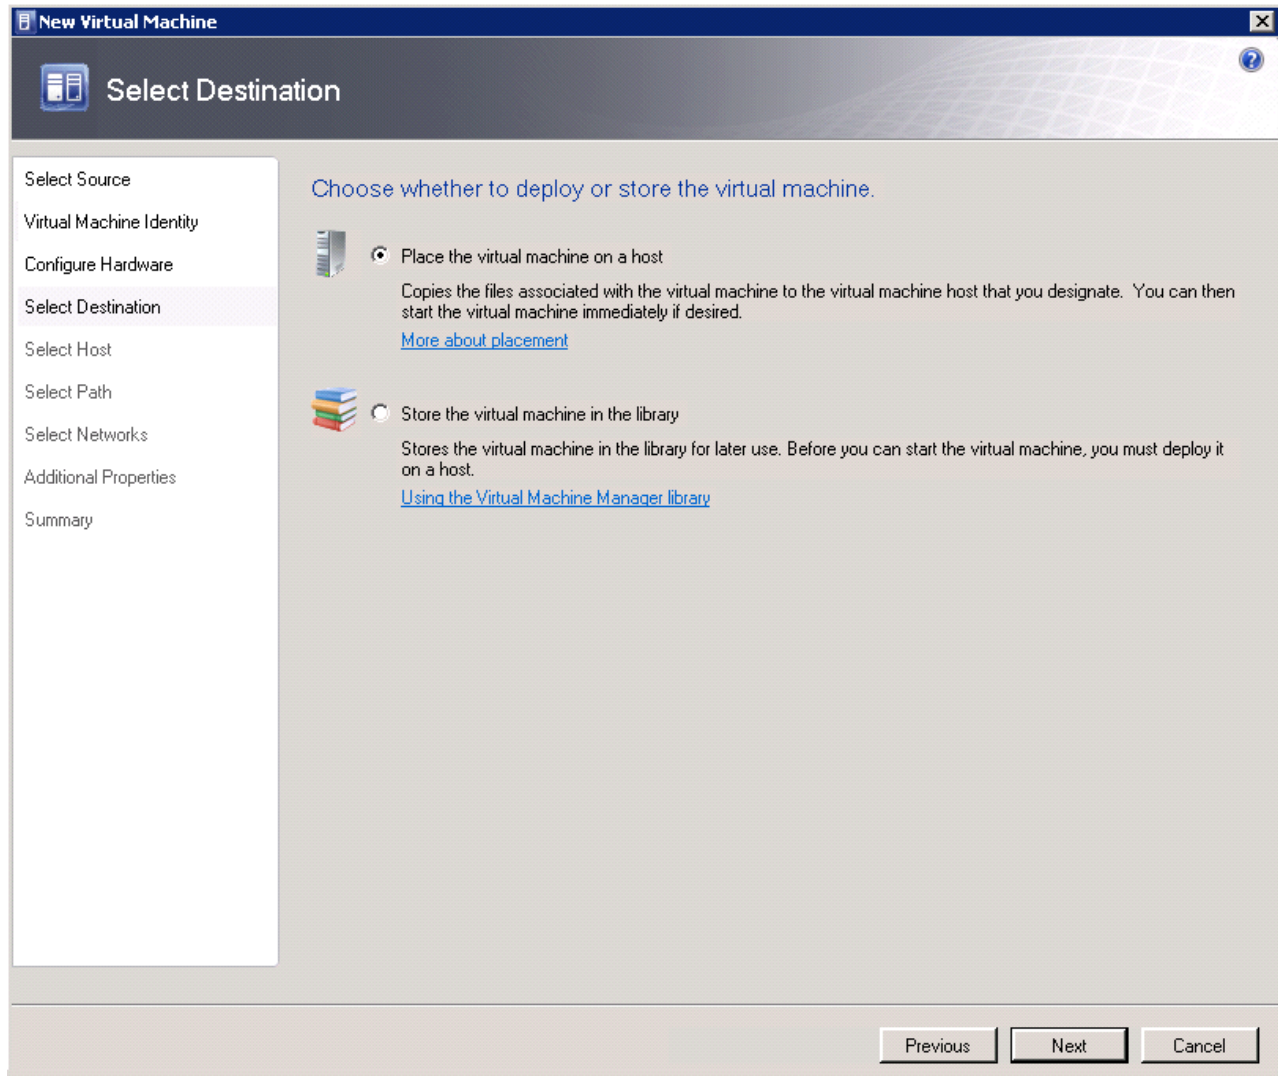

Figure 3-16 New Virtual Machine wizard: Select Destination
12. In the Select Destination window, select **Place the virtual machine on a host**, as shown in Figure 3-16. Click **Next**.